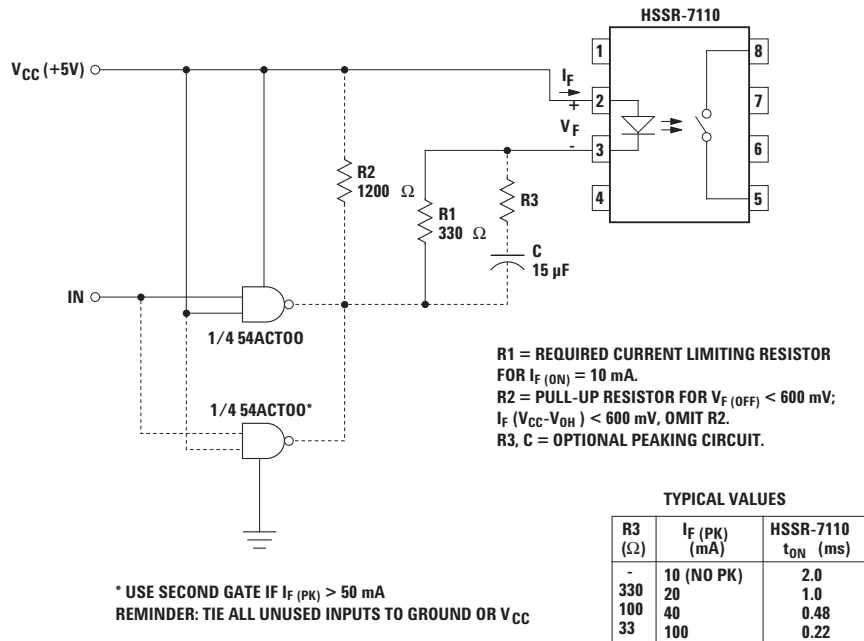

Figure 1. Recommended Input Circuit.
- For a faster turn-on time, the optional peaking circuit shown in Figure 1 may be implemented.
Input Circuit: The drive circuit of the electro-mechanical relay coil needs to be modified so that the average forward current driving the LED of the HSSR-7110 does not exceed 20 mA. A nominal forward drive current of 10 mA is recommended. A recommended drive circuit with 5 volt VCC and CMOS logic gates is shown in Figure 1. If higher VCC voltages are used, adjust the current limiting resistor to a nominal LED forward current of 10 mA. One important consideration to note is that when the LED is turned off, no more than 0.6 volt forward bias should be applied across the LED. Even a few microamps of current may be sufficient to turn on the HSSR-7110, although it may take a considerable time. The drive circuit should maintain at least 5 mA of LED current during the ON condition. If the LED forward current is less than the 5 mA level, it will cause the HSSR-7110 to turn on with a longer delay. In addition, the power dissipation in the output power MOSFETs increases, which, in turn, may violate the power dissipation guidelines and affect the reliability of the device.